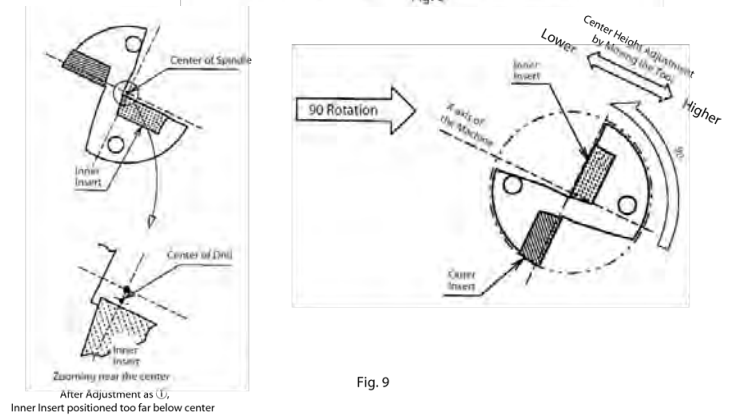

Fig. 9
① Install the drill rotated at the 180°. Most problems will be solved by this method.
② If the core diameter becomes too large after the above adjustment, install the drill rotating 90° counter-clockwise as shown in Fig.9 (outer insert is positioned lower) and adjust the center height by moving the tool in the X-axis direction.